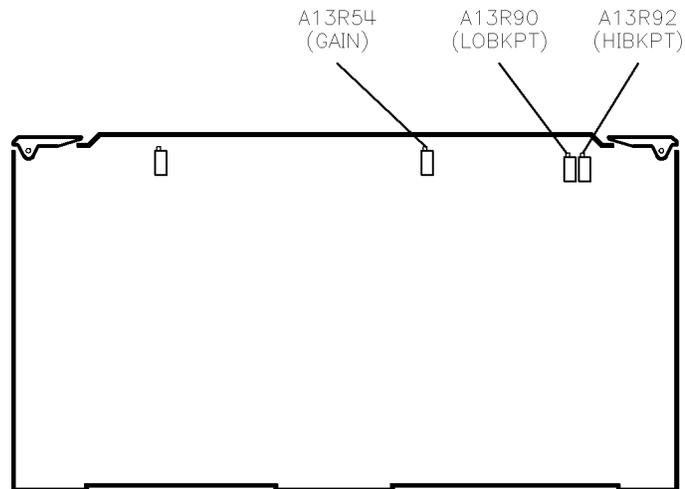

Figure 3-12. YO Gain and Linearity Adjustment Locations
4. Adjust A13R54 (see Figure 3-12) to center the "needle" on the display.
6. Adjust A13R90 (see Figure 3-12) to center the "needle" on the display.
8. Adjust A13R92 (see Figure 3-12) to center the "needle" on the display.